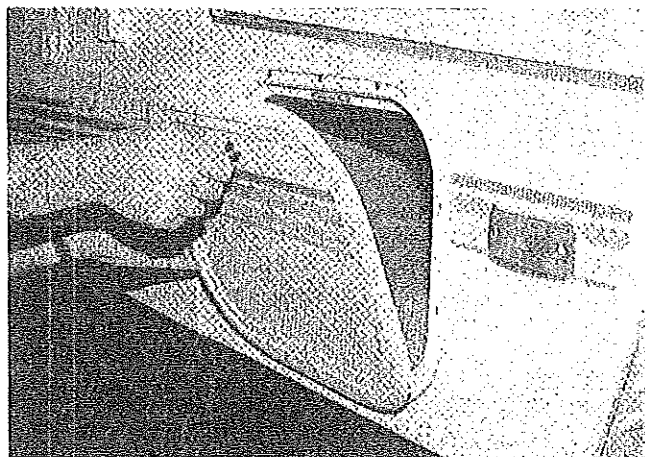

FIGURE 34
3. Side access to the trunk area can be achieved by opening the side access doors on either side of the trailer. Insert the key and turn 90 degrees clockwise to open. See Figure 34.